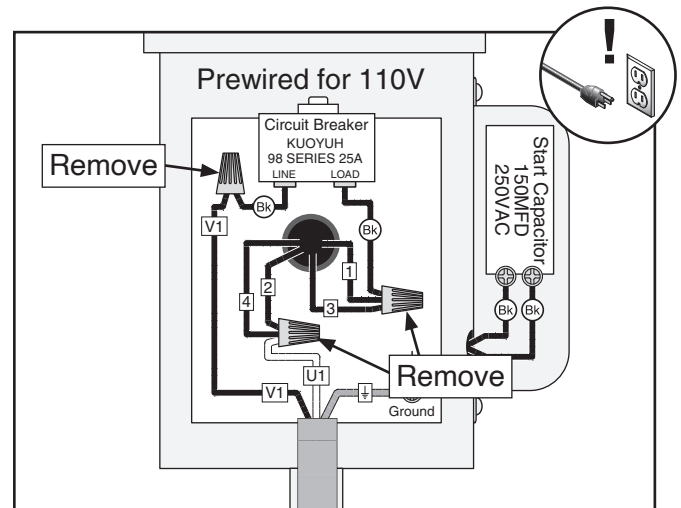

Figure 10. Location of wire nuts to remove.
3. Remove wire nuts on main motor, as indicated in **Figure 10**.